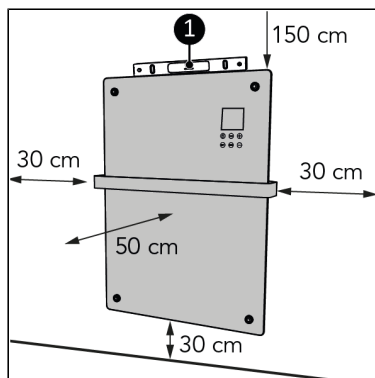

Figure 25.
5. Place the device on a vertical and solid surface. Use a spirit level when placing the device (Figure 25, pos. 1).
6. Place the device with a minimum distance (Figure 25) of: